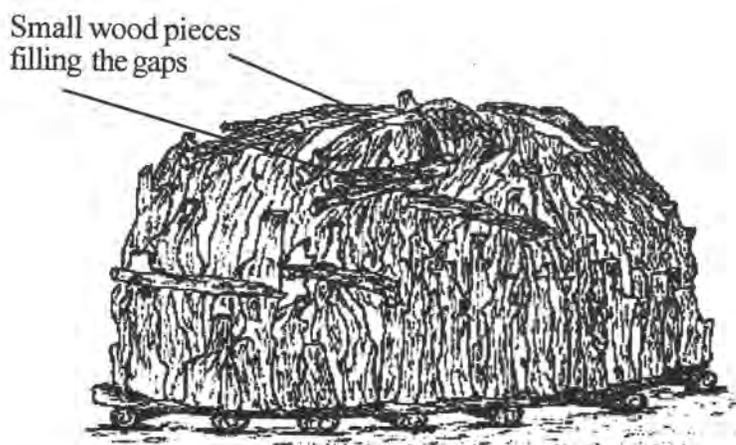

Figure 5.3: A complete stacked Casamance kiln
4. Stack the wood as tightly as possible filling all gaps between the wood with smaller wood pieces to allow for better heat transfer (Figure 5.3).